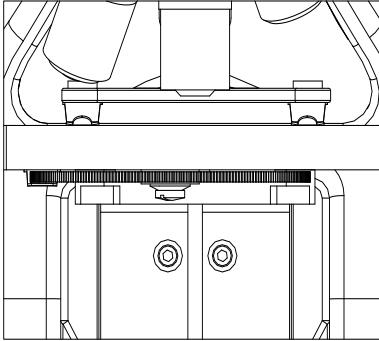

Fig. 11
2. For the microscope with disc diaphragm, turn the diaphragm to select a aperture to get the background brightness suitable (see Fig. 11).